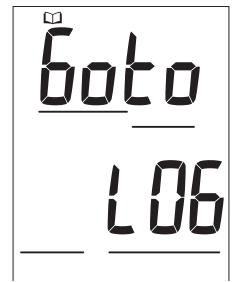

Fig. 10 - LOG LEAD-IN
**Log Lead-in**, information includes (Fig. 10):